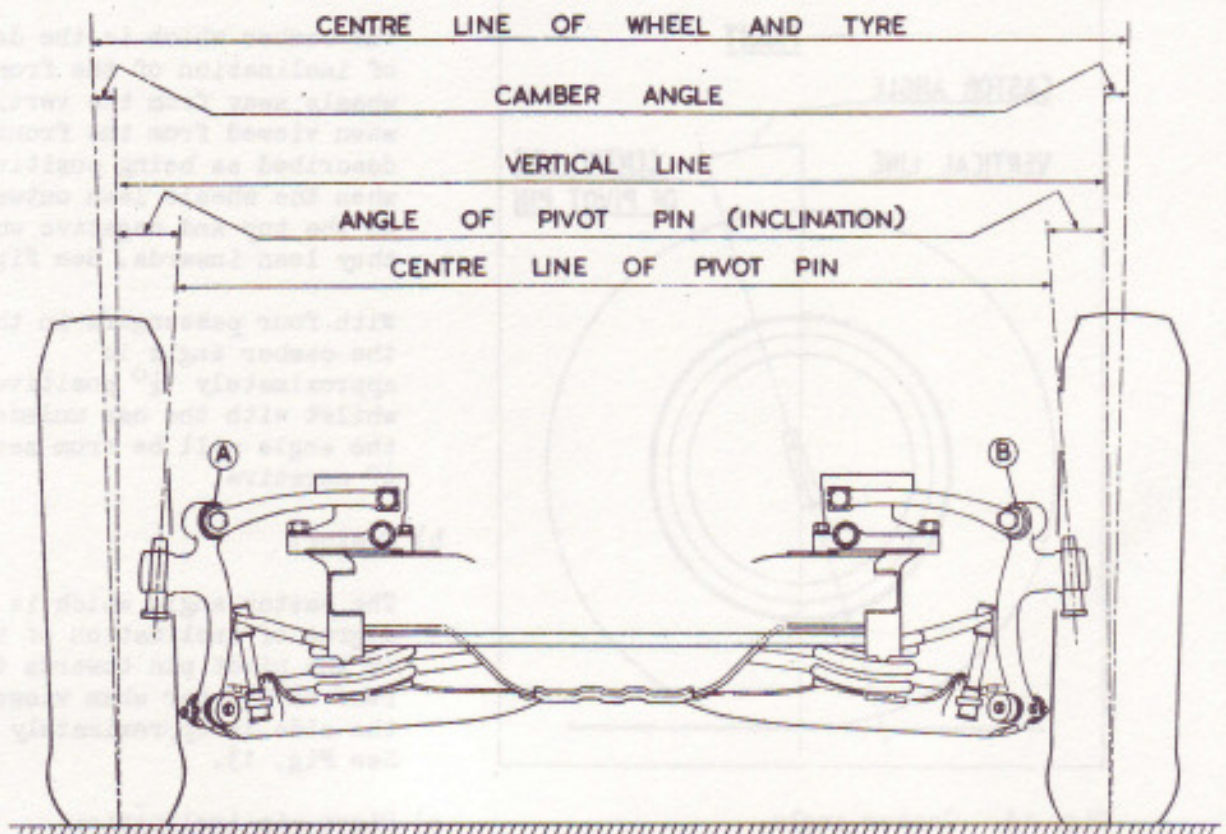

Fig. 12. Camber angle and pivot pin inclination.
- (i) The Silentbloc rubber bush (A & B, Fig. 12) at the upper end of the yoke may have collapsed.
The camber which is the degree of inclination of the front wheels away from the vertical when viewed from the front, is described as being positive when the wheels lean outwards at the top and negative when they lean inwards. See Fig.12.
approximately $\frac{3}{4}^{\circ}$. See Fig. 12.